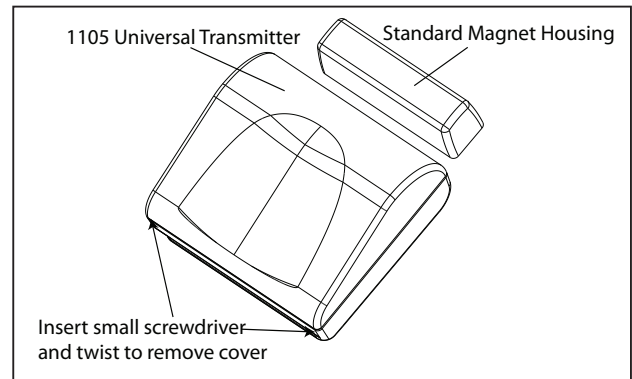

Figure 1: Mounted Transmitter and Magnet
1. Remove the cover and battery if installed. See Figure 1.
1. If installed, remove the transmitter housing cover as shown in Figure 1.